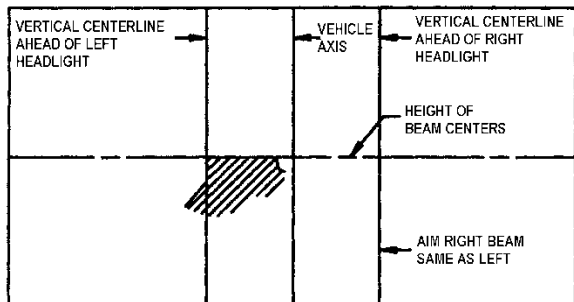

FIGURE 44: PROPER LOWER BEAM HIGH-INTENSITY ZONE AT 25FT 06504
6. Low beam headlights are aimed so that the top edge (the cutoff) of the high-intensity zone is at the vertical location as per table 1 and the left edge of the high-intensity zone is at the vertical centerline of the headlight (Figure 44).